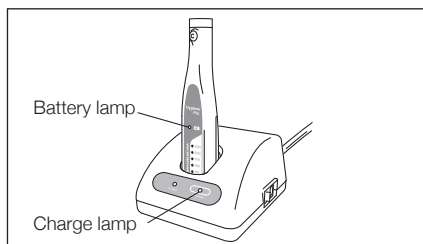

Fig. 6
- 4) Remove the contra head from the motor handpiece and mount the motor cap onto it. (Refer to "7. MOTOR CAP") Insert the motor handpiece into the battery charger with the operation panel facing frontward. If the motor handpiece power is on, it will be turned off automatically when inserted into the battery charger. Charging starts with the charge lamp turned on. The battery lamp of the motor handpiece lights. (Fig. 6)